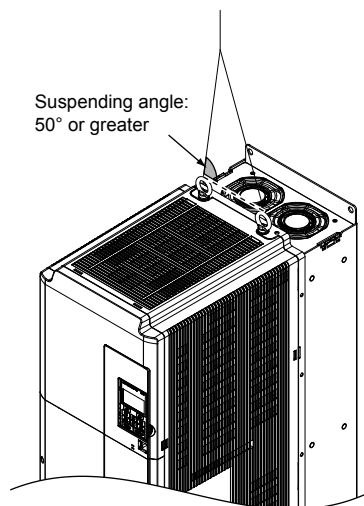

Figure i.9 Drive Suspension Using Wires and Eye Bolts
**WARNING!** *Crush Hazard.* Use an adequate length of wire to ensure a 50° or wider suspension angle as illustrated in Figure i.9. The maximum allowable load of the eye bolts cannot be guaranteed when the drive is suspended with the wires at angles less than 50°. Failure to comply may result in serious injury or death from falling equipment.